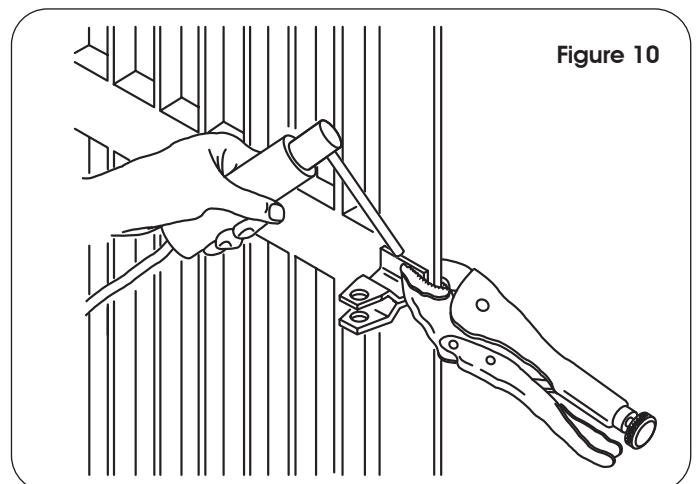

Figure 10
**Prevent welding slag from damaging the rod.** (Fig.10). If welding is not feasible, secure the front and rear attachment plates with screws.